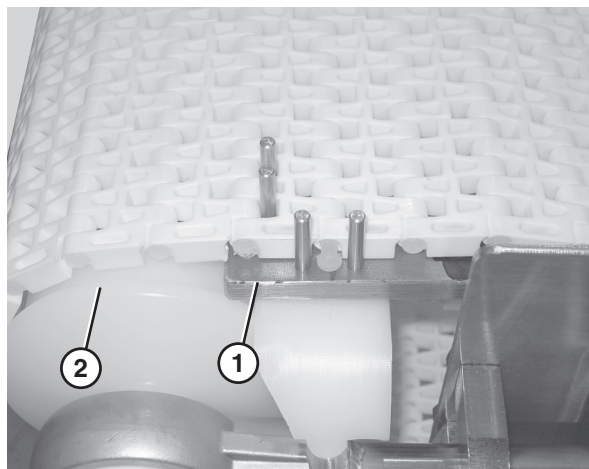

Figure 49
2. Secure the retaining head side of the belt. Use the belt removal tool (Figure 49, item 1) for 1" pitch belts. For all other belts, position the section of belt so that it is braced by the flanged puck (Figure 49, item 2).